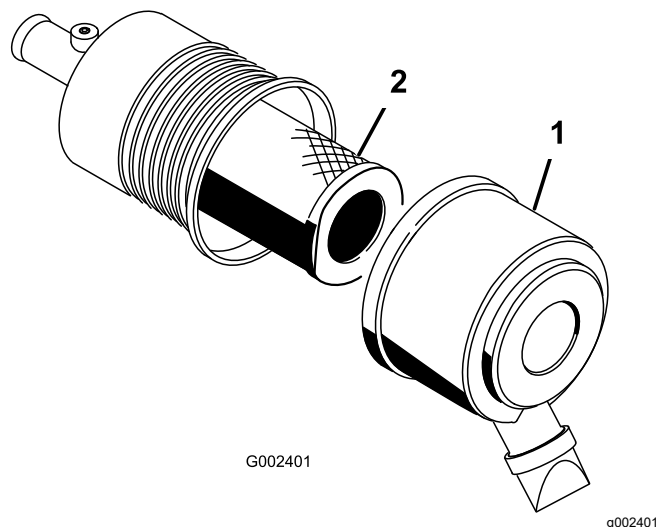

Figure 55
2. Release the latches securing the air-cleaner cover to the air-cleaner body (Figure 55).
3. Remove the cover from the air-cleaner body (Figure 55).
5. Remove and replace the filter (Figure 55).